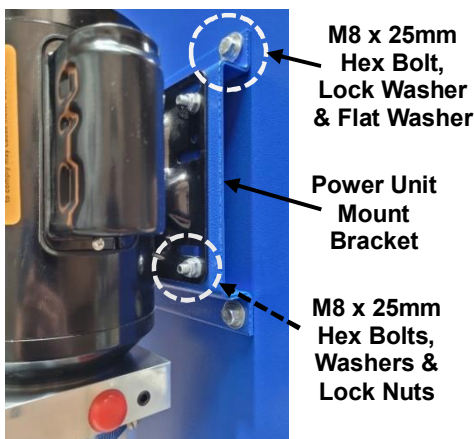

Fig. 7
- 1) Before mounting the power unit, determine which side of column will be the preferred or the best configuration for garage or shop bays, either the - right, left or backside of column. Once determined, first install the **power unit mount bracket** to the preferred column side via the threaded mount holes on the column. Install **bracket**, using **4ea M8 x 25mm hex bolts, lock washers & flat washers**. **Fig. 7.**
- 2) Carefully remove **115V Power Unit** from cardboard box to mount to the specific column side mount bracket. Use **4ea M8 x 25mm hex bolts, washers, and lock nuts** to mount power unit to power unit mount bracket. **Fig 7.**